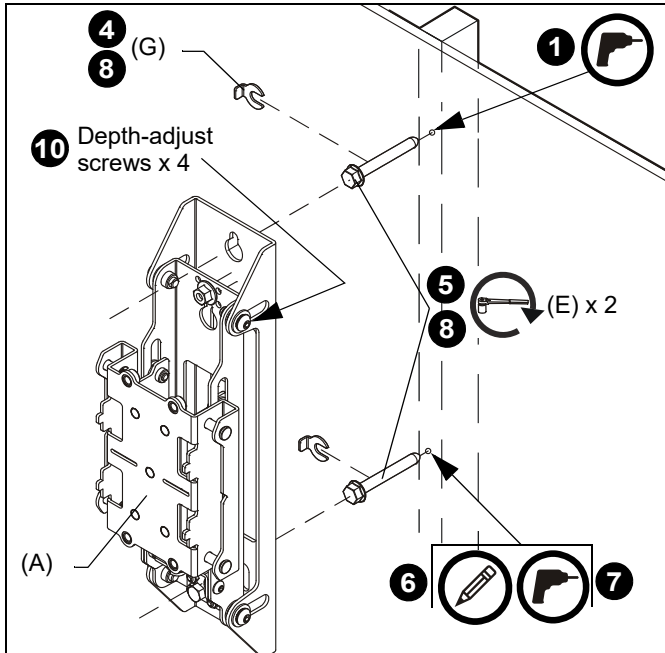

Figure 7
1. Drill one 7/32" (5.5mm) pilot hole in stud at upper mounting slot. (See Figure 7)
2. Partially install one 5/16 x 2-3/4" flanged lag bolt (E) into pilot hole but do not tighten to wall.
3. Hang outside wall upright (A) [or center wall upright (B)] aligning upper mounting slot over lag bolt and level upright.
4. Place one slotted washer (G) over flanged lag bolt. (See Figure 7)
5. Tighten lag bolt to secure wall upright (A or B) to wall at upper mounting slot. (See Figure 7)
6. Mark the attachment point for the lower mounting slot, making sure the attachment point is located on the stud. (See Figure 7)
7. Drill 7/32" (5.5mm) pilot hole at marking for lower mounting hole. (See Figure 7)
8. Use one 5/16 x 2-3/4" flanged lag bolt (E) and one 5/16" slotted washer (G) to attach each wall upright to the wall through the lower mounting hole. (See Figure 7)
10. Adjust depth of wall uprights, if necessary, so that the face of the wall uprights are all in the same plane across the width of wall upright installation: (See Figure 7)